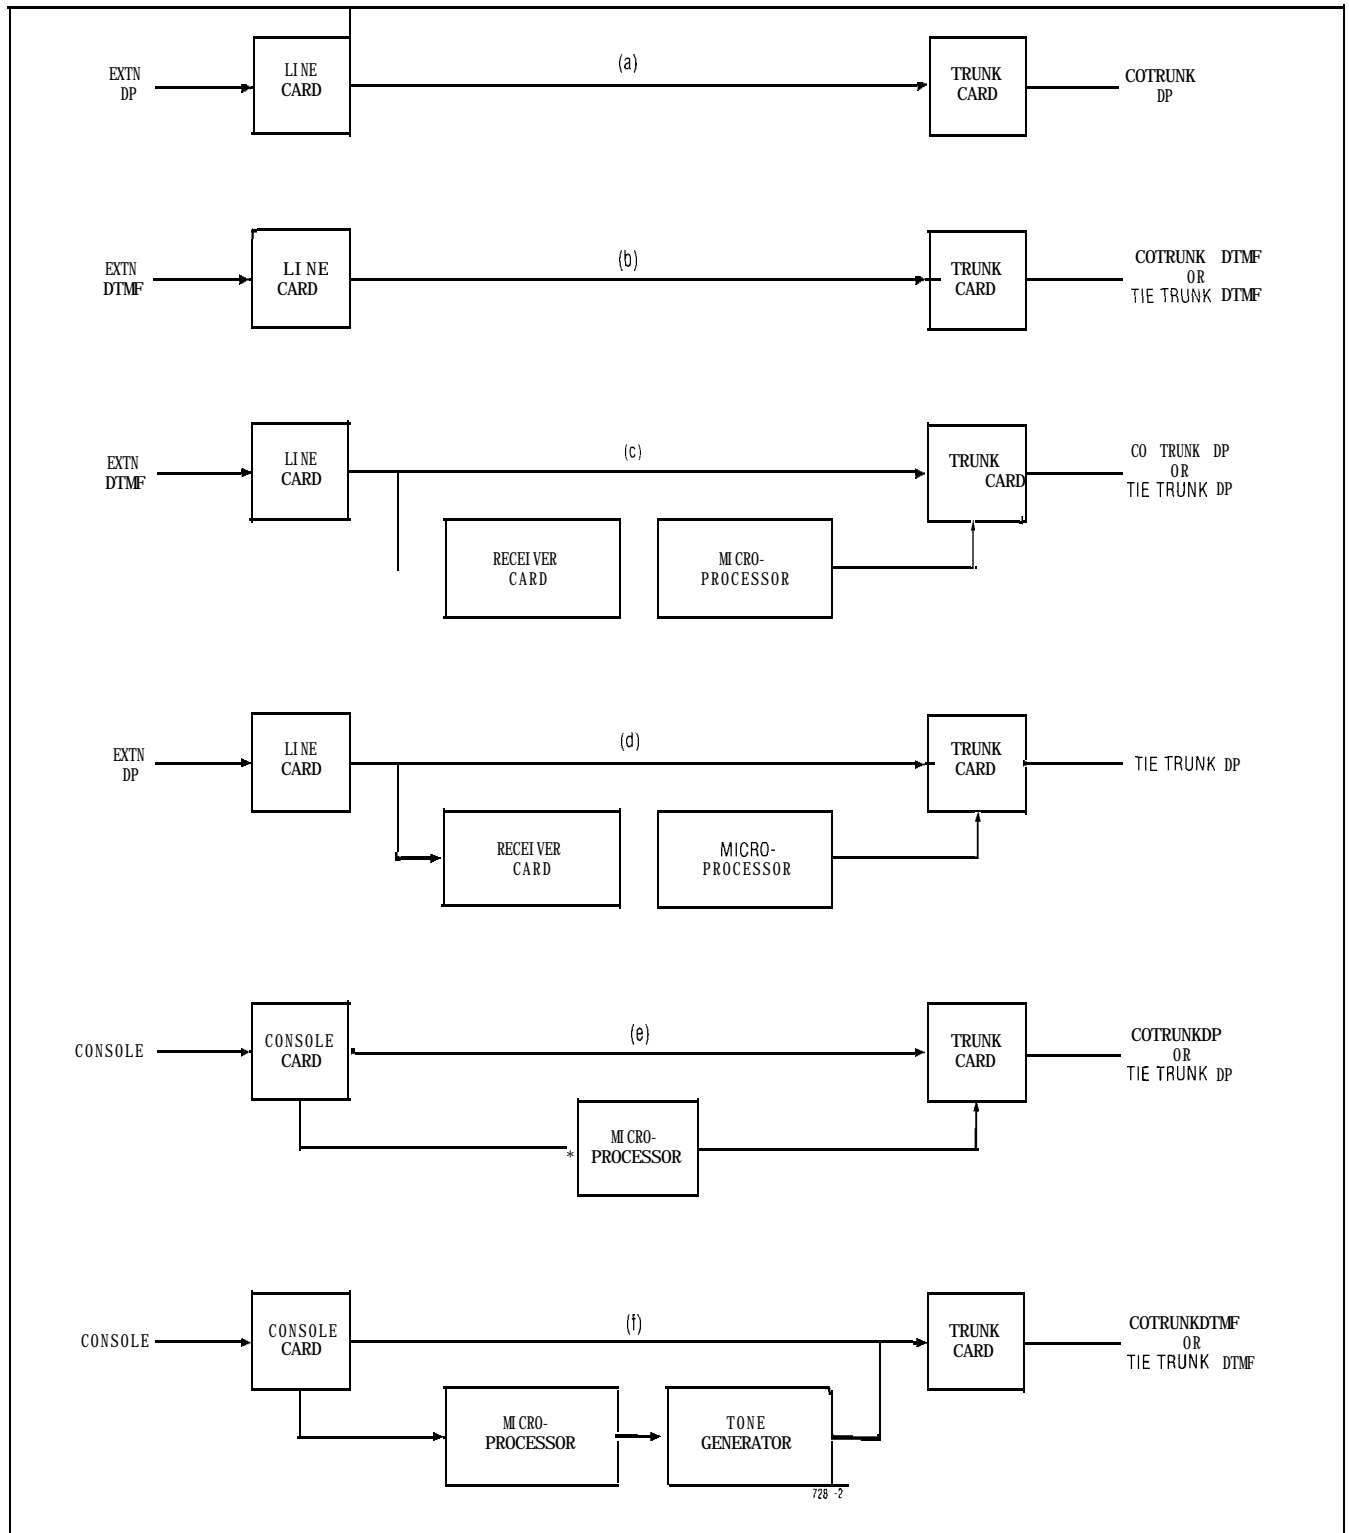

Fig. 8-3 Trunk Dialing Configurations
- (a) If Fig. 8-3(a) configuration is applicable the dial pulses from the extension are repeated by a relay in the trunk card and enter the trunk circuit. The call proceeds under control of these pulses.
- (b) If Fig. 8-3(b) conditions are applicable then DTMF tones from the extension are routed over the speech path, through the trunk card to the main exchange, and again the call proceeds normally.
- (c) When DTMF extension dialing is used to a DP exchange, Fig. 8-3(c) conditions apply. In this case the DTMF tones are translated by the receiver to digital data and forwarded to the microprocessor where it is translated into further data required by the trunk processor. The trunk processor converts this data to the proper dial pulse train required by the CO exchange. It should be noted that both the DTMF tones and DP signals will appear on the trunk circuit.
8.27 The receiver is disconnected as soon as the trunk access code has been detected if both the extension and trunk are DTMF (Fig. 8-3(b)) and if Toll-Denial is not checked. If the extension requires DTMF to DP conversion the receiver is maintained until dialing is completed. Toll-Denial requires that the receiver be maintained on the speech path until the required number of digits have been dialed. (See Section MITL9105/9110-98-212 Multi Digit Toll Control)
8.28 The circuit operations described above are similar to those required for Tie-Trunk circuits; with the exceptions following. For DP extensions to DP tie-trunk circuits (Fig. 8-3(d)) the requirement exists to inhibit dial train distortion arising as a result of tandem operation through one or more tie trunks. For this reason, when the trunk processor receives the input data it causes the output to the tie-trunk to be a regenerated train of dial pulses. It should be noted also that the trunk processor isolates the speech path to prevent dial pulses from feeding back to the extension.
and outputted to the trunk line. Fig. 8-3(e) illustrates this circuit. Note that a receiver card is not required for this configuration.
8.30 If the circuit is programmed as a DTMF trunk circuit a tone generator will be inserted as illustrated at Fig. 8-3(f). This results in the digital data signals being translated into DTMF tone pulses which are then placed on the speech path (not into the trunk card) and forwarded to the trunk circuit for outward transmission. The audio path is isolated back to the console when the DTMF transmission takes place.